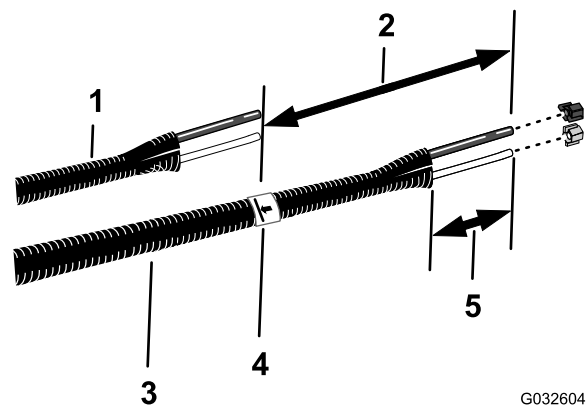

Figure 12
6. Align the old liquid and air tubes (Figure 12) to the new tube assembly (Toro Part No. 114-9553).
8. At the new tube assembly, add 26 cm (10 inches) length from the mark that you made in step 7, mark the tube assembly, and cut the tubes at the second (longer) mark (Figure 12).
10. Remove 77 to 102 mm (3 to 4 inches) of the sheathing from around each end of the tube assembly (Figure 12).